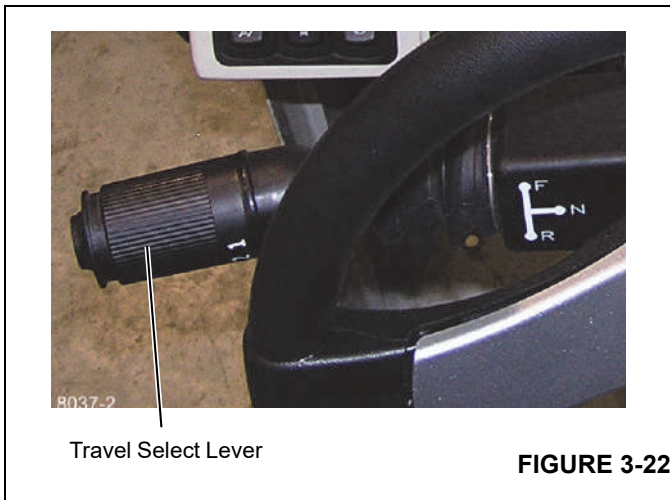

FIGURE 3-22
- Place the travel select lever (Figure 3-22) in the neutral (N) position.